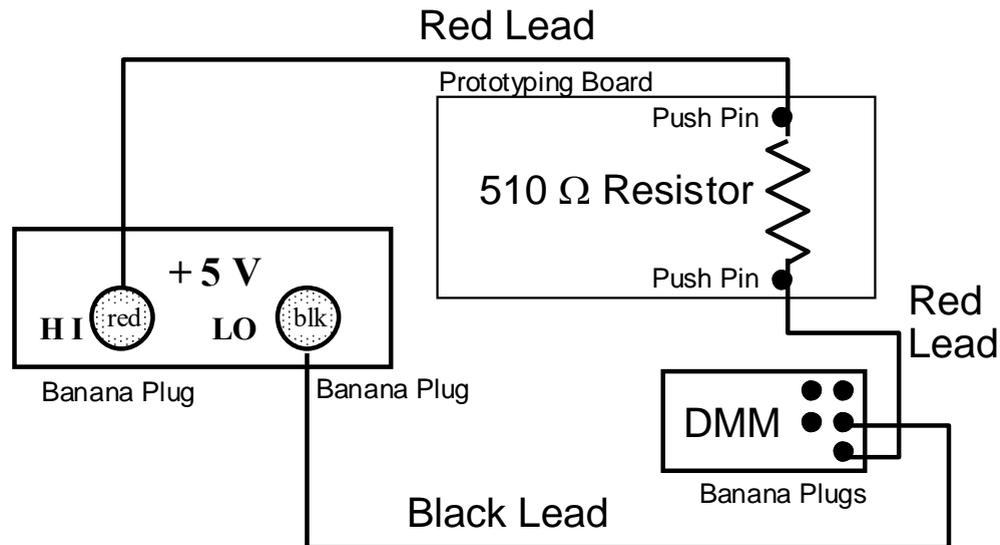
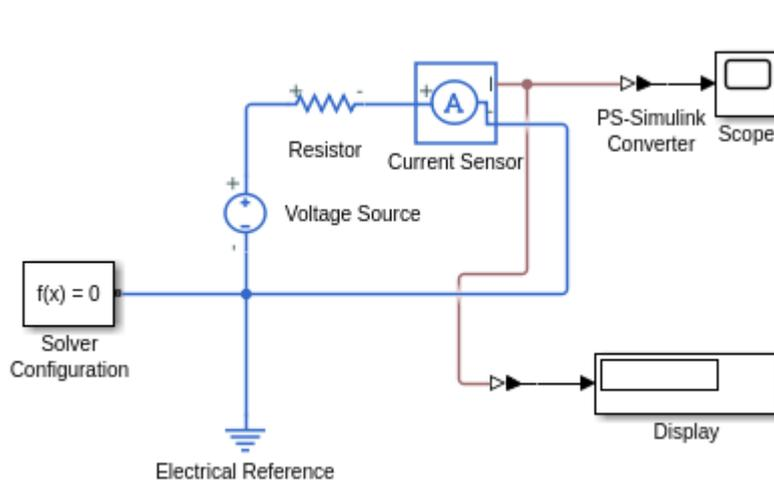

Figure 1: Wiring for Current Measurement
Figure 2: Simulink Diagram for Current Measurement
- (a) In the physical lab, we would wire the circuit as in Figure 1. To simulate this in Simulink, create the diagram as in Figure 2.
- Connect the data link of *Current Sensor* to *Scope* and *Display*. To do this, click on the data output on the *Current Sensor* block. A red, dashed arrow will appear. Connect this to the input of *PS-Simulink Converter*, which is connected to the *Scope*. At this point, your diagram should look as in Figure 2.